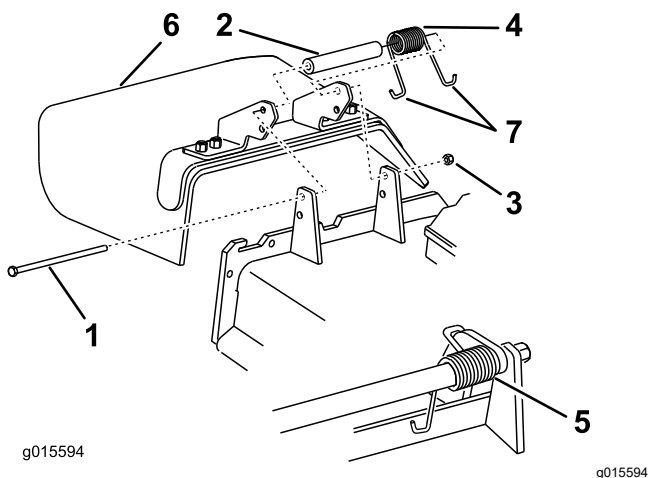

Figure 93
1. Remove the locknut, bolt, spring, and spacer holding the deflector to the pivot brackets (Figure 93).
Note: Make sure that 1 J-hook end of spring is installed behind deck edge before installing the bolt as shown in Figure 93.
6. Place 1 J-hook end of the spring around the grass deflector (Figure 93).